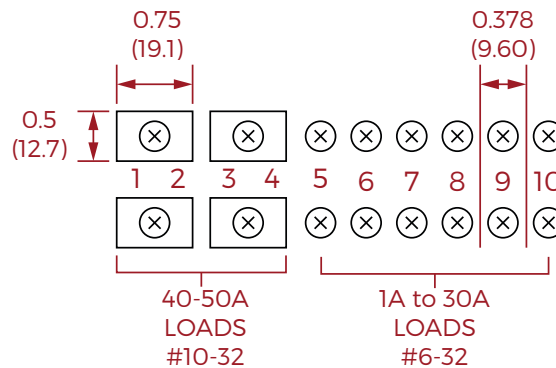

Figure 6. Output Barrier Strip Detail
9.4 Output Connections. Output connections for A and B loads are shown in Figure 6. There are 10 sets of barrier terminal strip connections for each side, A and B. The connections are numbered to correspond with the numbers of the front panel breakers. The upper strip connections are from the battery through the breakers; the lower strip connections are the returns. Side B is on the left and side A on the right, as shown.